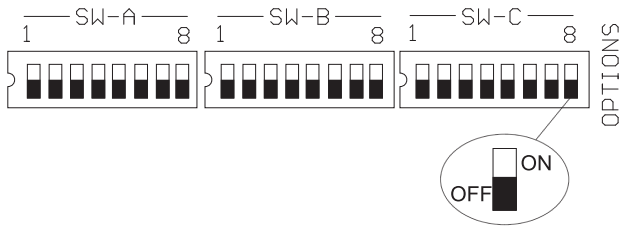

Figure 3. Micro switches
Settings in Access Level 3 can be performed via the micro switches on the main board. This procedure must be performed only by the installation engineer. On the main board of the panel there are three (3) sets of micro switches modules SW-A to SW-C. Every module consists of 8 micro switches No.1 to No.8 as shown on Figure 3. Their position during hardware reset define the effective configuration. Hardware reset is performed either during power up or after pressing the button labeled SW-RESET on the PCB (see section 1).